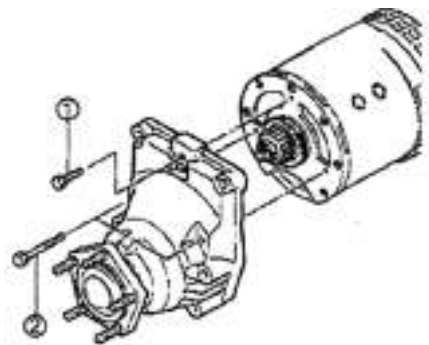

Fig.1-3
1.2.2 Disassembly of traction motor (Fig.1-3)